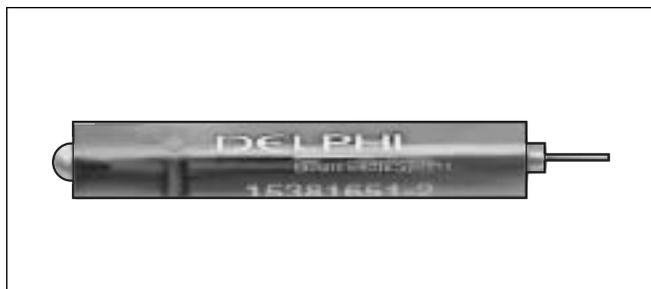

Figure 8-26. Packard Micro 64 Terminal Remover (Part No. HD-45928).
4. Obtain the Packard Micro 64 Terminal Remover (HD-45928). See Figure 8-26. Proceed as follows: